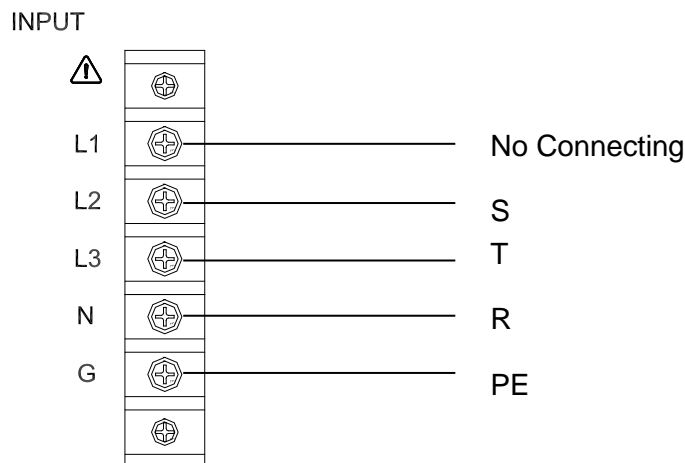

Figure 2-1 220 3~Δ Input Connection
See Figure 2-1 and do the following things one by one:
2. Screw the power cord to the input terminal blocks of the AC source (see Figure 2-1)